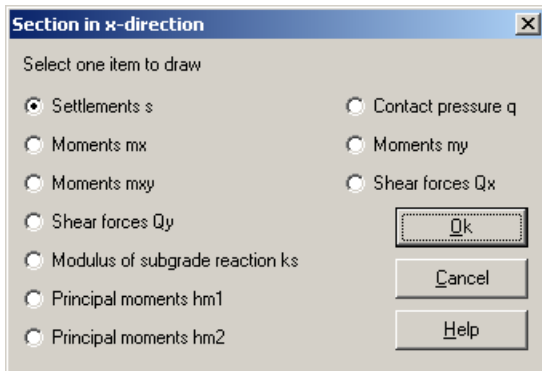

Figure 9-45 "Section in x -direction" option box
- Choose "Section in x -direction" command from "Sections" menu. The following option box in Figure 9-45 appears